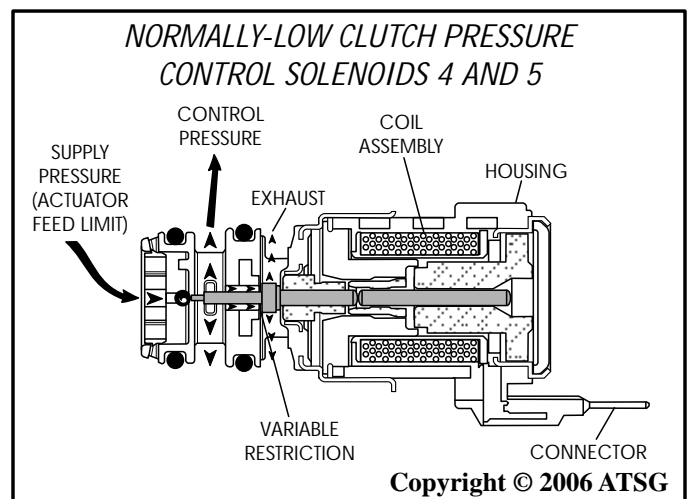
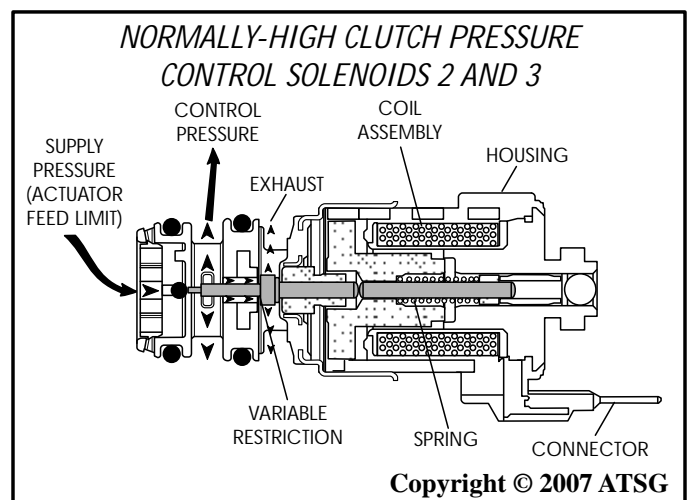

Figure 13
Figure 14
There are two different types of clutch pressure control solenoids. Clutch pressure control (PC) solenoids 2 and 3 are **"normally-high"** amperage pressure control solenoids, as shown in Figure 14, and are identical to the line pressure control solenoid. Clutch pressure control (PC) solenoids 4 and 5 are **"normally-low"** amperage pressure control solenoids, as shown in Figure 13, and are identical to the TCC PC solenoid.